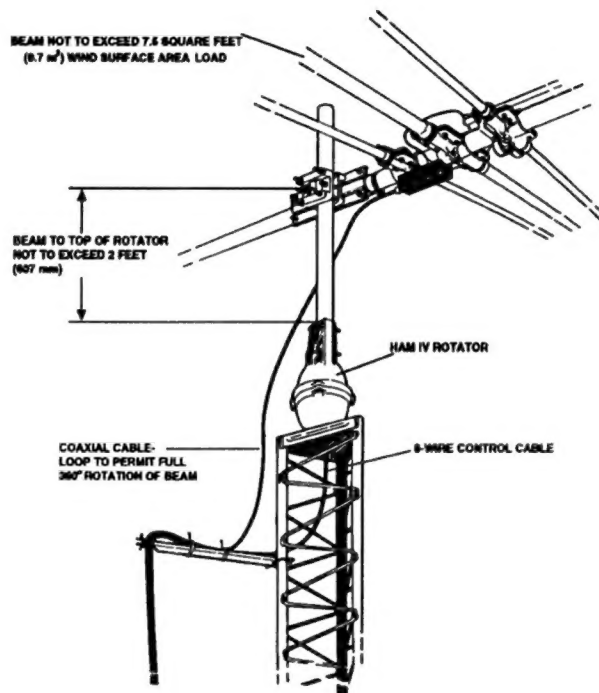
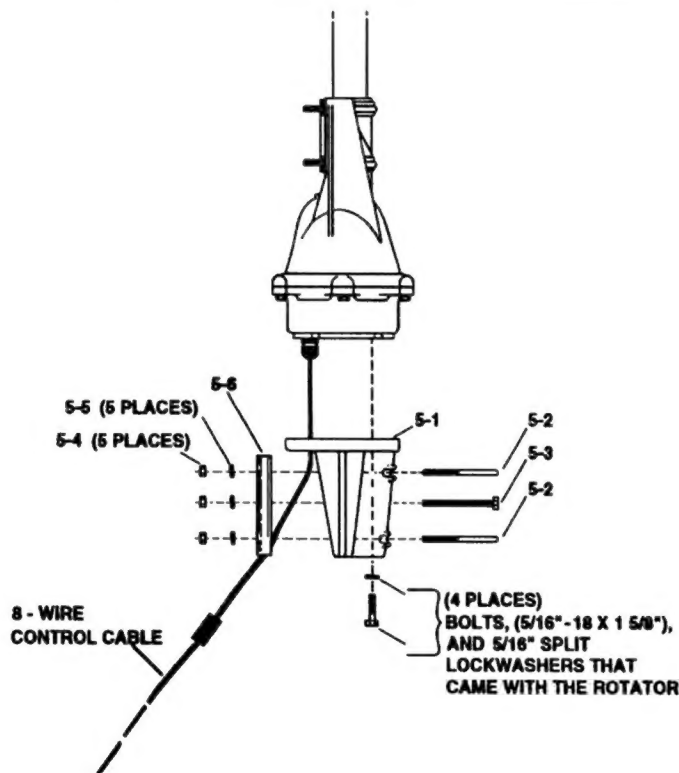

Figure 5
Figure 7
B. Outside Tower or Mast Mounted as per Figure 5 or 6	7.5 square feet (.7 m ²) of wind surface area
*Maximum Effective Moment (EM)	2,800 ft. lb. (387 Kg. m)
- When not mounted within a tower with a thrust bearing, as shown in Figures 5 and 6, the rotator must be DERATED.
2. An "outside" Tower Mount (see Figure 5) is optional. The rotator is not well protected but the installation is simpler. With an "Outside" Tower Mount, the rotator must be derated to 7.5 square feet.
Referring to Figures 5, 6, and 7, an outside tower or pole mount is made in the same manner except that the rotator is fastened by four (4) bolts only (not six) to the Lower Mast Support, PN 5146710. Since the eccentricity of the rotator turning in reference to the tower is no longer important, the shimming procedure is not necessary. The four (4) bolts must be torqued to the same specification and the 8-wire cable securely fastened. The lower mast should be pinned with the 5/16"-18 x 4" bolt as shown in Figure 7.
The stock HAM IV is intended to mount on the base plate inside of the tower. However, in some instances, outside tower or mast mounting is desired as per Figures 5 and 6. This kit, P/N 5146710 contains a heavy-duty lower mast support and the necessary hardware to facilitate mounting the HAM IV on top of a tower stub or mast.